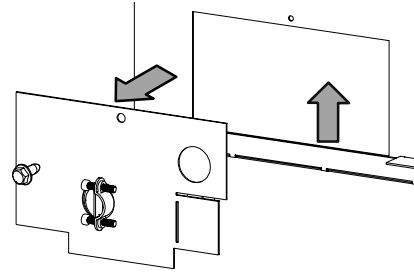

Figure 28
3. Remove the electrical access cover panel from the left end of the fireplace. **See Figure 28.**
7. Re-install the junction box into the firebox using the screws removed in step 2. **See Figure 28.**